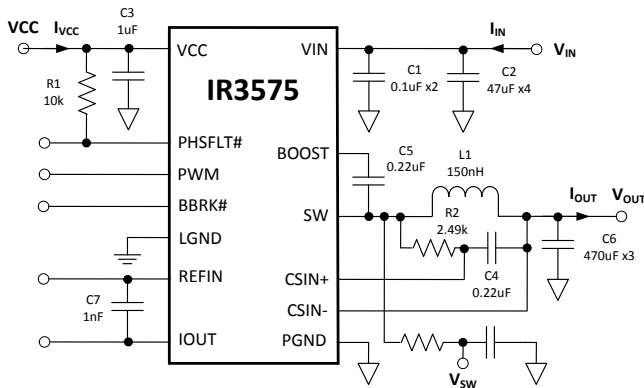

Figure 32: IR3575 Power Loss Measurement
Circuit of Figure 32, $V_{IN}=12V$, $V_{OUT}=1.2V$, $f_{SW} = 400kHz$, $L=150nH$ (0.29mΩ), $VCC=7V$, $T_{AMBIENT} = 25^{\circ}C$, no heat sink, no air flow, 8-layer PCB board of 3.7" (L) x 2.6" (W), no PWM controller loss, no inductor loss, unless specified otherwise.
Circuit of Figure 32, $V_{IN}=12V$, $V_{OUT}=1.2V$, $f_{SW} = 400kHz$, $L=150nH$ (0.29mΩ), $V_{CC}=7V$, $T_{AMBIENT} = 25^{\circ}C$, no heat sink, no air flow, 8-layer PCB board of 3.7" (L) x 2.6" (W), no PWM controller loss, no inductor loss, unless specified otherwise.
The single-phase IR3575 efficiency and power loss measurement circuit is shown in Figure 32.